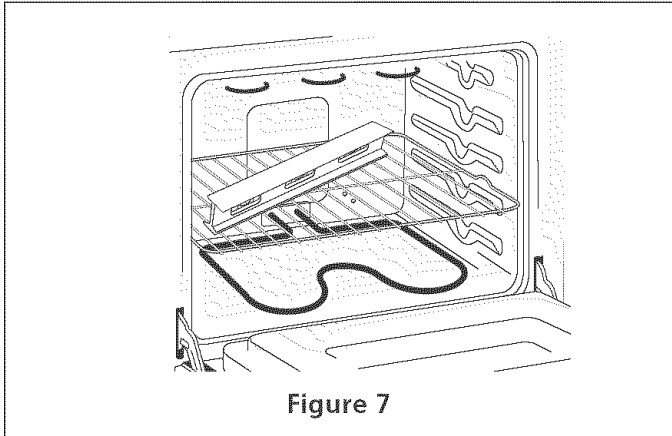

Figure 7
1. Install an oven rack in the center of the upper oven (see Figure 7).